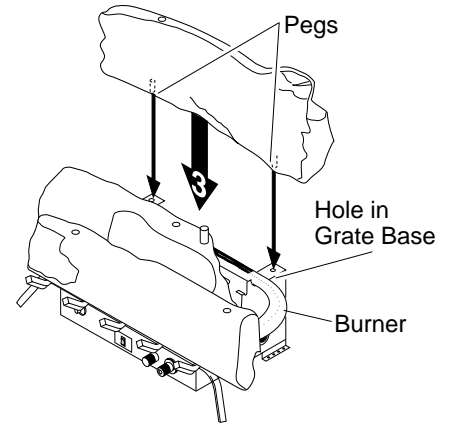

Figure 28 - Installing Rear Log (#3)
3. Locate pegs on the bottom of back log (#3). Slide these pegs into the holes in the grate base behind the burner (see Figure 28).